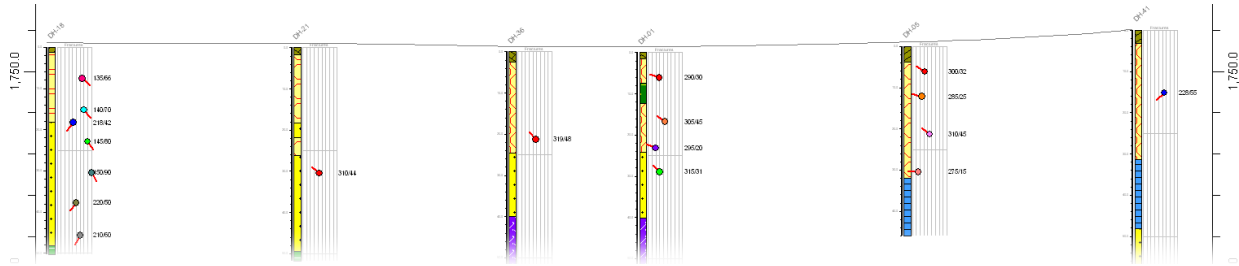

Figure 6
- The last-used log layout will be used when creating other diagrams that display 2D striplogs such as the sections and profiles (Figure 6).